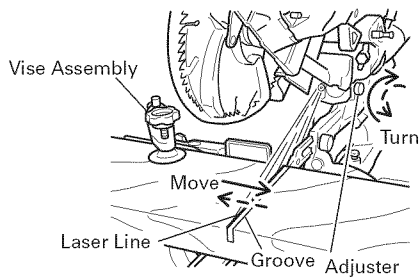

Fig. 22
(2) Then, turn the adjuster and shift the laser line. (If you turn the adjuster clockwise, the laser line will shift to the right and if you turn it counterclockwise, the laser line will shift to the left.) When you work with the ink line aligned with the left side of the saw blade, align the laser line with the left end of the groove. (Fig. 22) When you align it with the right side of the saw blade, align the laser line with the right side of the groove.
(3) After adjusting the position of the laser line, draw a right-angle ink line on the workpiece and align the ink line with the laser line. When aligning the ink line, slide the workpiece little by little and secure it by vise at a position where the laser line overlaps with the ink line. Work on the grooving again and check the position of the laser line. If you wish to change the laser line's position, make adjustments again following the steps from (1) to (3).